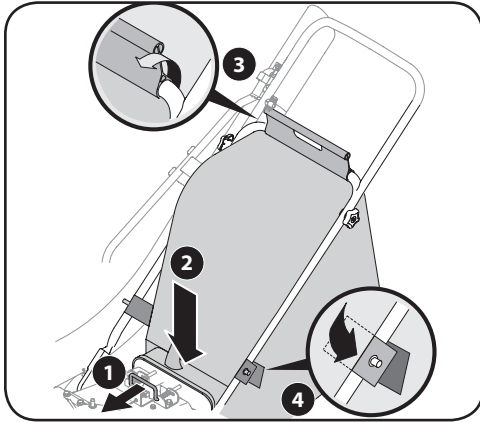

Figure 3-6
1. Grasp bag handle with one hand and slide locking rod on mounting bracket with other hand toward engine. Use the end of mounting bracket as leverage when sliding the locking rod. See Figure 3-6.
6. Place the lower straps on the bag over the top of lower handle, hooking them on the studs. See Figure 3-6.